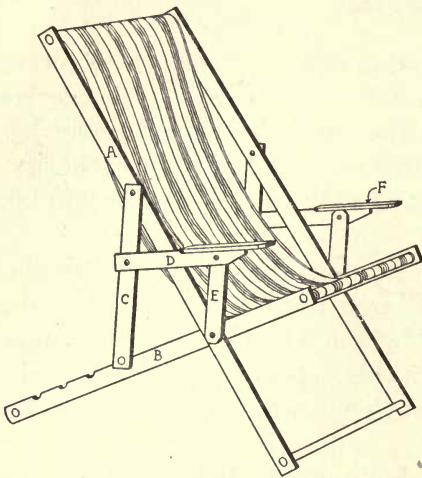

FIG. 37.—PORCH CHAIR ASSEMBLED.
6. **Assembling the pieces.** — (1) Fit and glue the rounds into *A* and *B* (Fig. 37). The distance between pieces *A* when fastened together should be 2' 3", inside measurements. The distance between pieces *B* should be 2' 3", outside measurements, as this pair must fit inside the first pair. (2) Fasten pieces *A*, *B*, and *E* together with the carriage bolts $3\frac{3}{4}$ " long, heads outside. (3) Fit round to pieces *C* so that they are 2' 3" apart, inside measurements. (4) Fasten the other ends of pieces *C* to *A* with carriage bolts $2\frac{1}{2}$ " long. (5) Fasten pieces *D* to pieces *C* with carriage bolts $2\frac{1}{2}$ " long. (6) Fasten pieces *E* to pieces *D* with carriage bolts $2\frac{1}{2}$ " long. (7) Fasten pieces *F* to pieces *D* with screws. (8) Fasten the canvas to the upper round of pieces *A* and *B* with heavy tacks, doubling under the canvas while tacking.